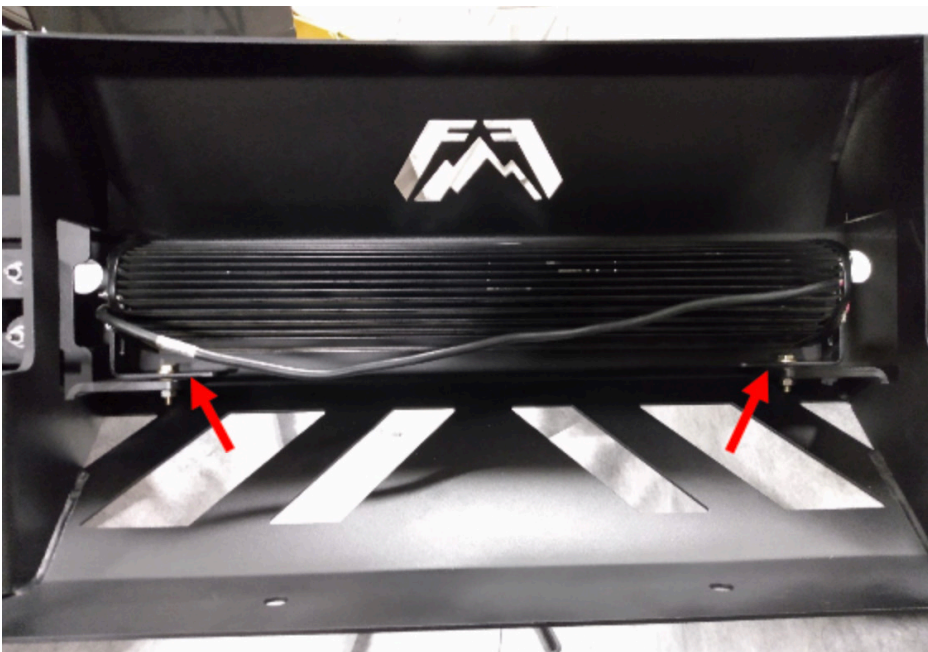

Figure 26
22. If applicable, install a 20" lightbar using the two (2) provided L-brackets (part#:22352) and 1/4" screws, flat washers, lock washers, and nuts. Figure 26